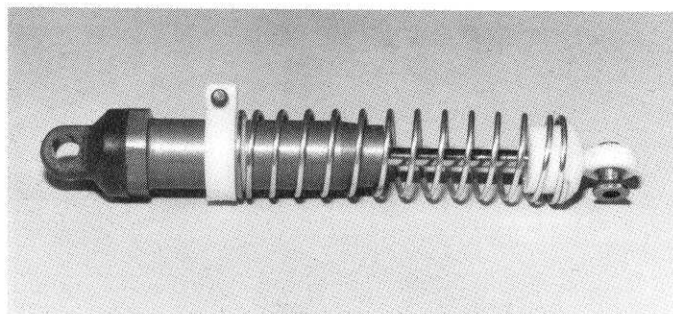

Fig. 105
□ **Fig. 105** From Bag #6-11, install the 2 #6474 spring clamps on the rear shocks. The spring should go over the thin flange. Push the screw through the larger hole of the spring clamp and thread it into the smaller hole to tighten. There should be a 3/8" (9.45 mm) space between the collar and the body hex nut. Tighten the screws just enough to lock the collars. DO NOT overtighten. Slip on the long silver spring. There is also a long gold spring, which is stiffer than the silver spring. The silver spring will work best on most slippery tracks, but you can experiment with the gold spring also, on your track. Take the #6471 plastic rod end and push it onto the metal ball. The easiest way to do this, is to lay the metal ball end on a table, with the flat end on the table. Set the plastic end on the ball and push it in place with your 1/4" nutdriver. Then thread the plastic ball end on the shaft. You'll have to keep the shaft from rotating with a needlenose pliers. Grab the shaft close to the threads so that you don't scratch the part that rides in the "O" rings. With your spring on the shock, snap in the split spring collar.